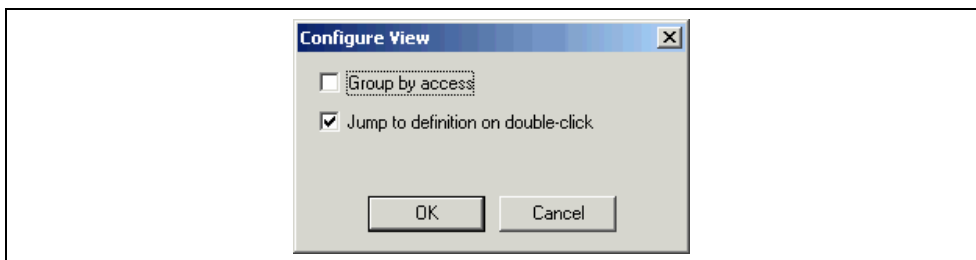

Figure 13.6 C++ Configure view dialog
- Jump to definition on double click: By default this option is checked. If this option is switched off then a dialog is displayed which asks you where you wish to jump. You rather than HEW resolve the ambiguity. This dialog is shown in figure 13.6.